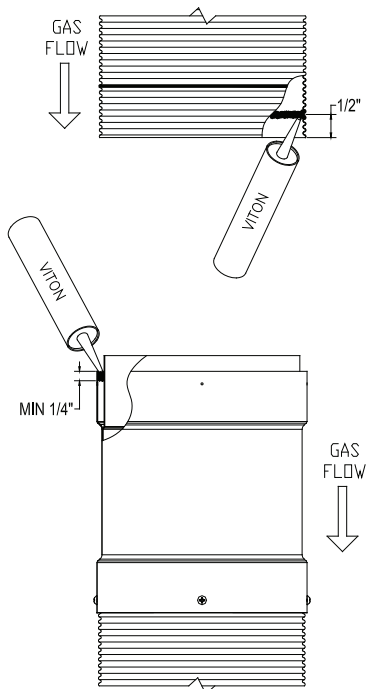

Figure 22 -DuraSeal Flex Viton® caulking
- 3.2. Add another bead of Viton® caulking at 1/2" from the edge of the flexible liner all around the inner side of it (**Figure 22**).